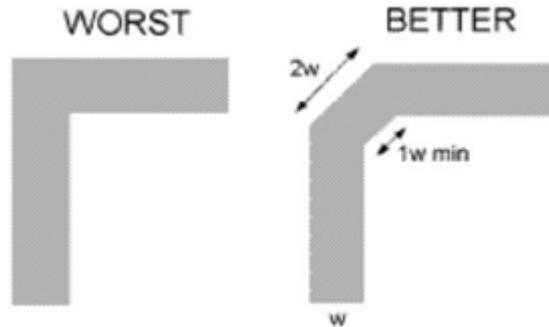

Figure 7. Signal Trace Bending
- Figure 7. Signal Trace Bending 7